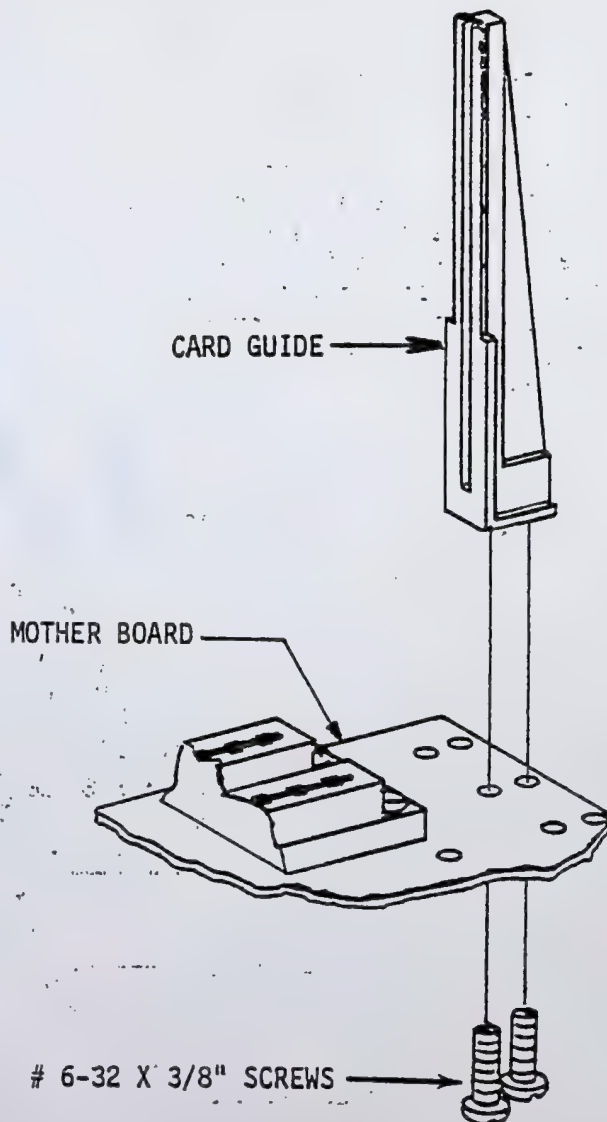

Figure 5-62. Card Guide Mounting
5. Mount the card guides on both sides of the connectors, as shown in Figure 5-62.